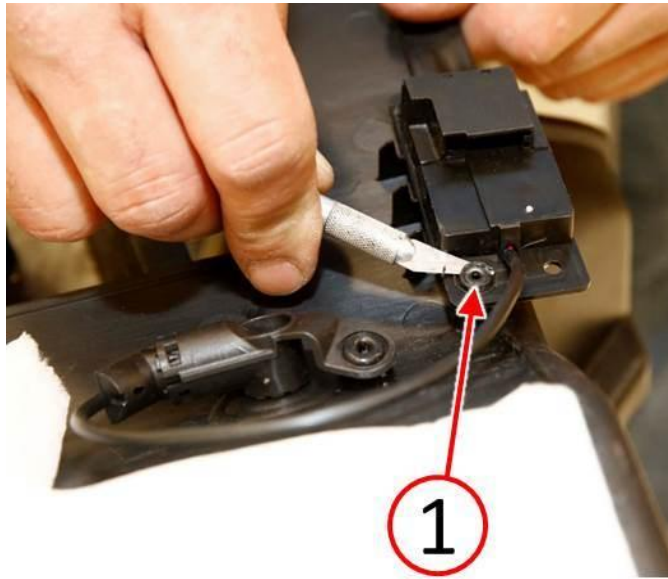

Fig. 18 Cut Heat Stakes And Remove Alarm Sensor
43. Using a suitable tool, remove the heat stakes (1) securing the alarm sensor to the quarter trim panel (Fig. 18).